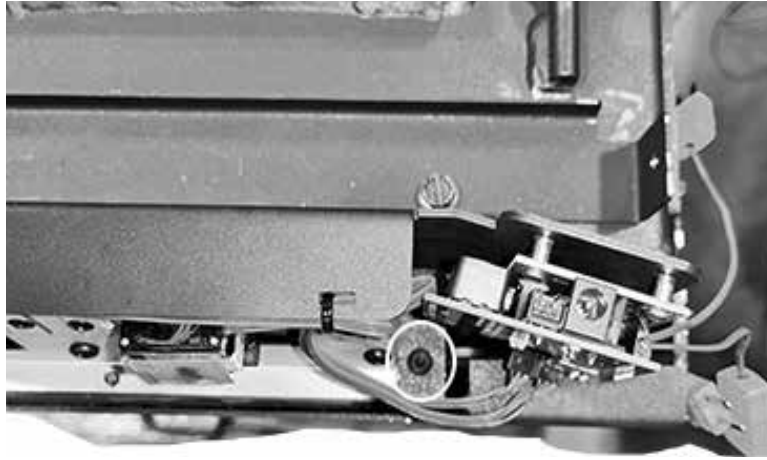
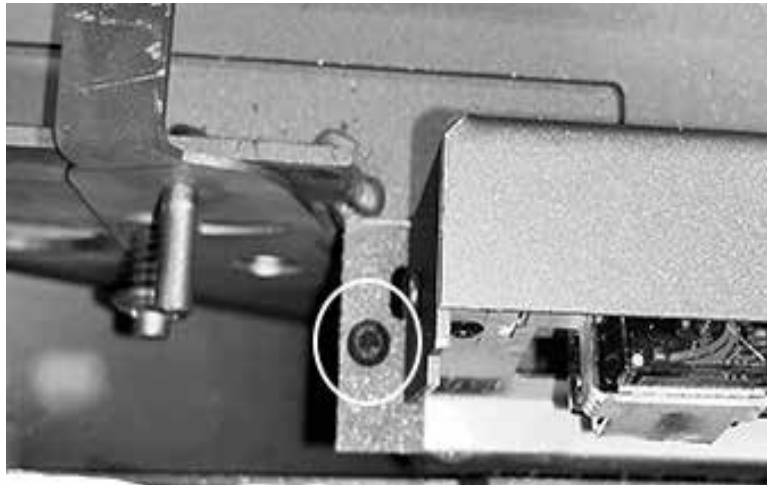

Figure 5: Control - Right end screw.
Figure 6: Control - Left end screw.
5. Remove the two screws securing the Intake and Control Assembly to the unit. Figure 5 and Figure 6